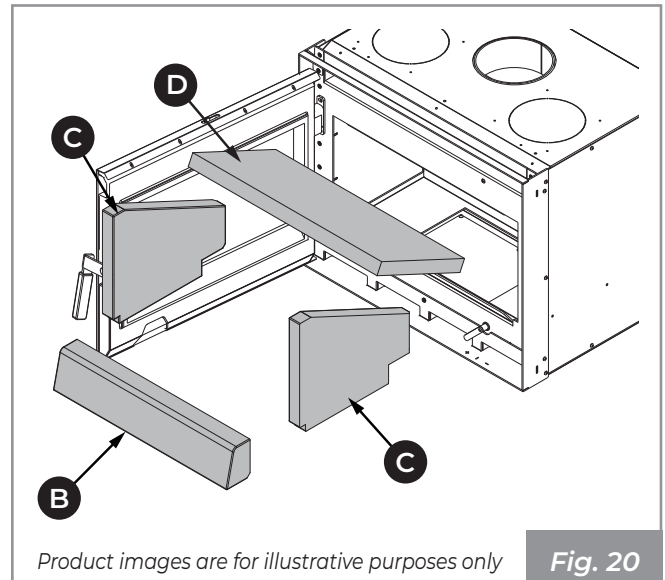

Fig. 20
#### 2. Remove, in this order, the back wall (B), the side walls (C) and the upper deflector (D) (Fig. 20).
Open the door and remove, in this order, the back wall (A), the side walls (B) and the upper deflector (C) (paragraph "Adjusting the bypass valve" on page 57 - Fig. 20).